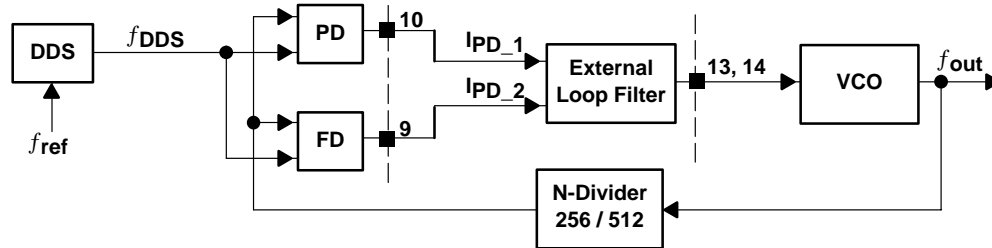

Figure 18. Basic PLL Structure
The phase-locked loop (PLL) of the TRF5901 consists of a phase detector (PD) and a frequency acquisition aid (FD), two charge pumps, an external loop filter, a voltage controlled oscillator (VCO), and a programmable fixed prescaler (N-divider) in the feedback loop (see Figure 18).